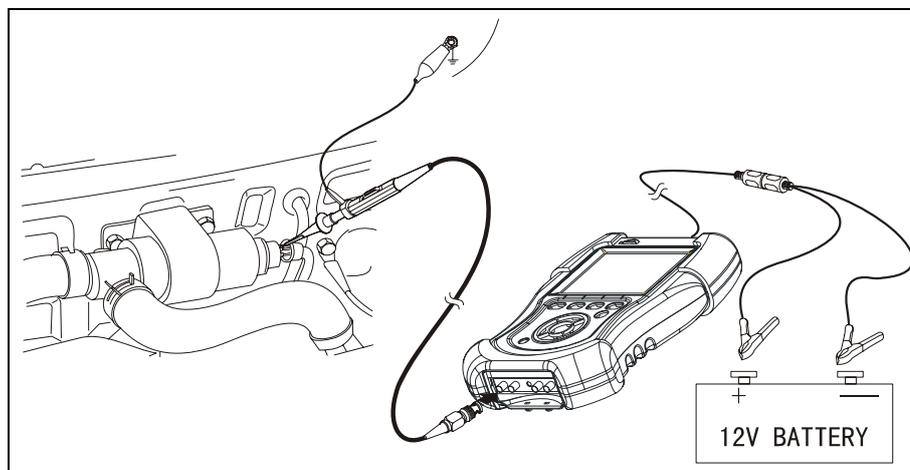

Fig. 4-10
alligator clip on test probe to the negative of battery or grounding, pierce test probe into the IAC/ISC signal line. Connecting diagram of multi-point fuel injection is shown as Fig.4-10.
1. Connect equipment according to Fig.4-10, switch on power supply switch of KT600;